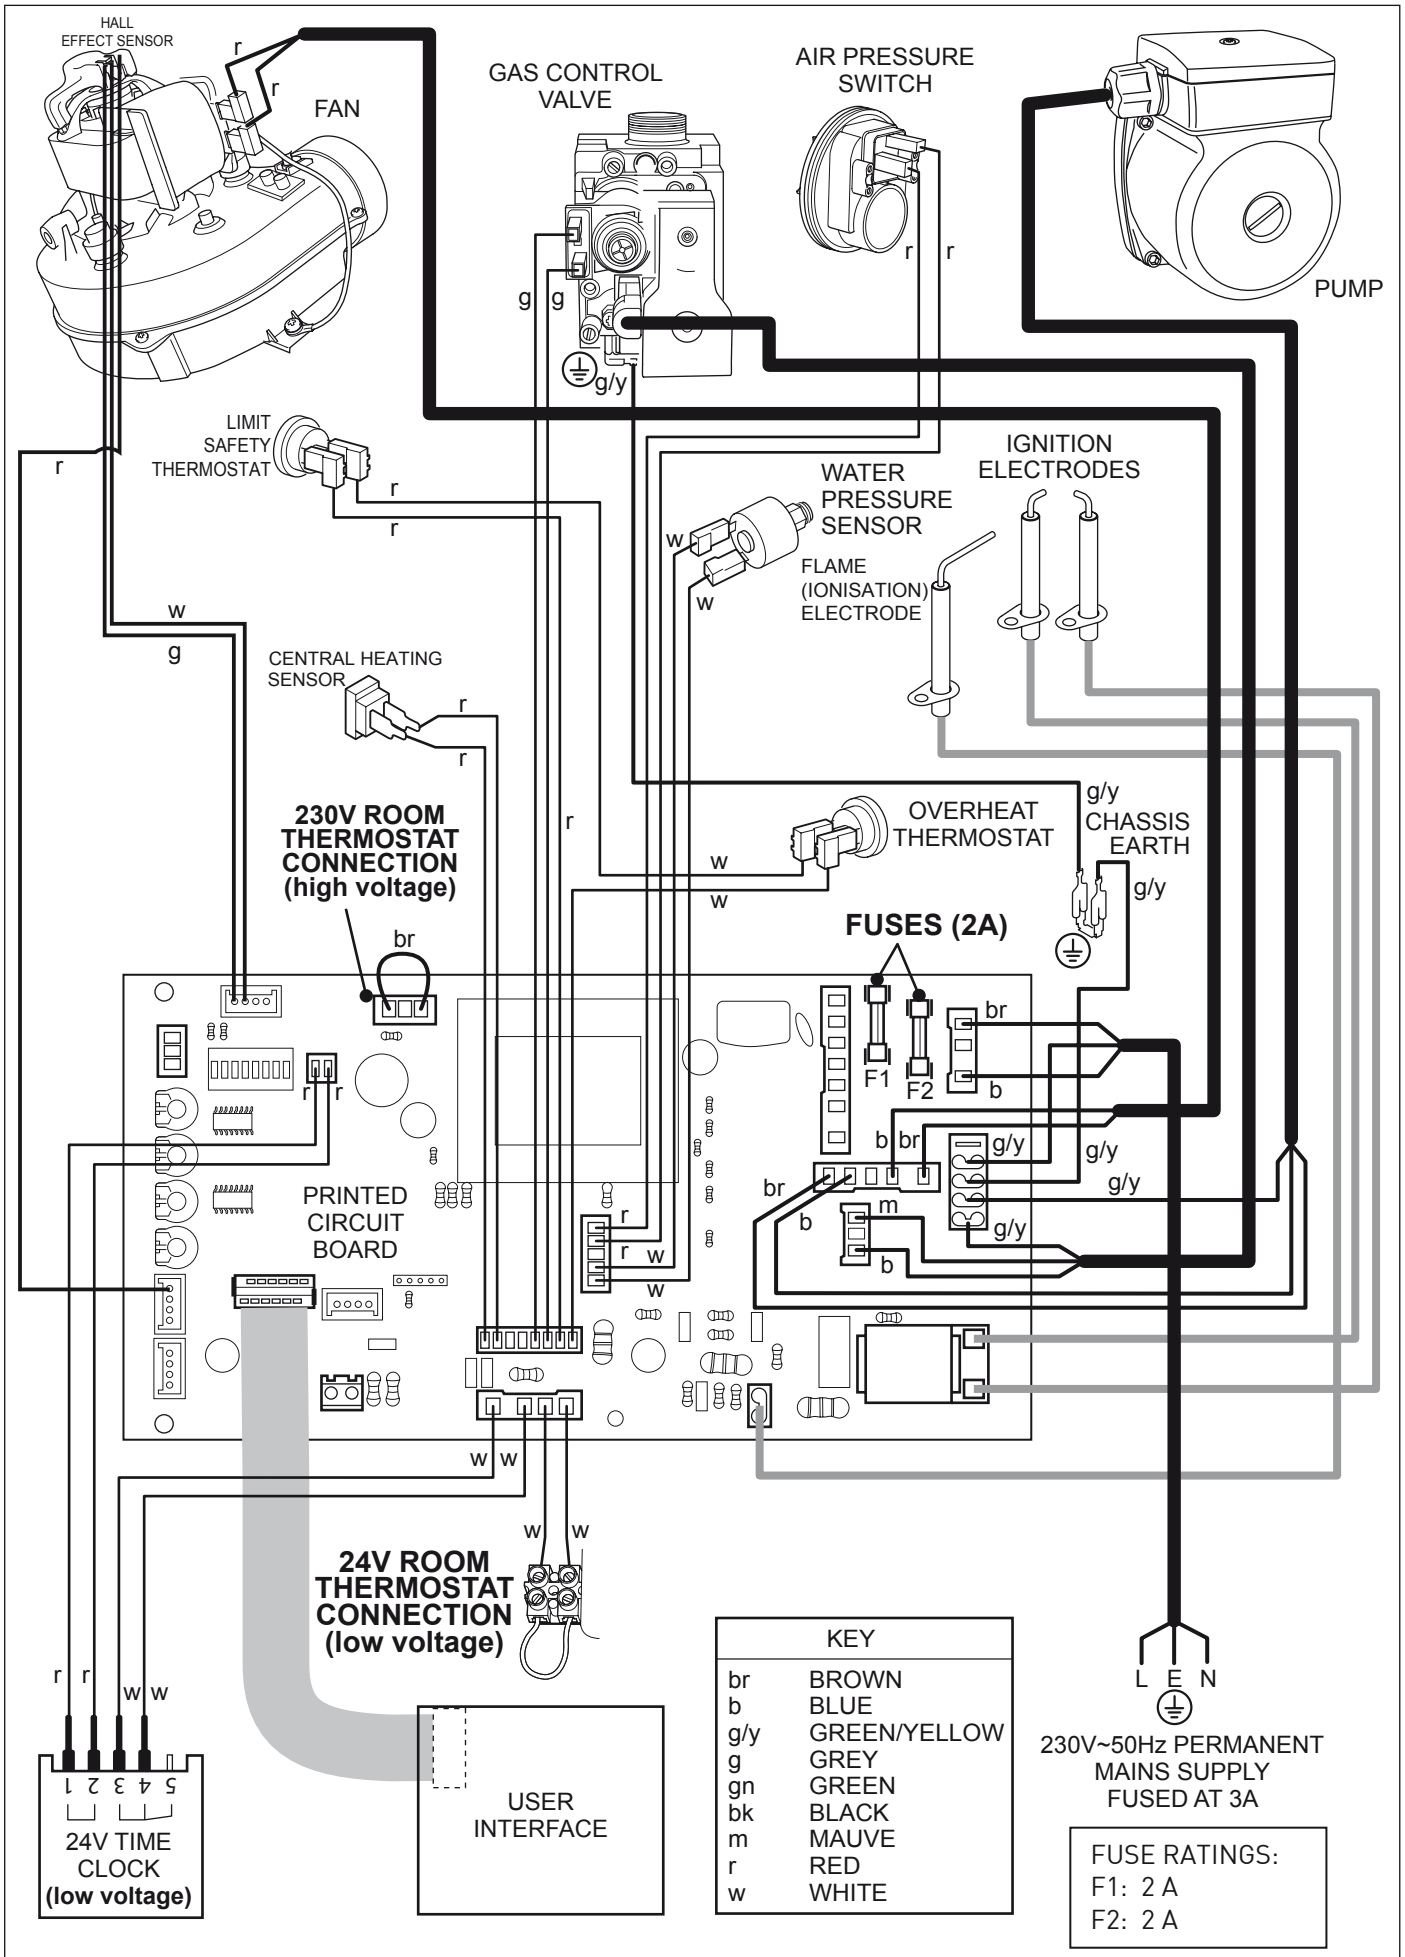

Figure 9.3
9.8 On connecting the mains electrical supply to the boiler, it is essential to ensure that electrical safety checks for earth continuity, earth resistance, polarity and short circuit are carried out prior to making the final connection. A diagram of the boiler's electrical circuit is given as Figure 9.3.